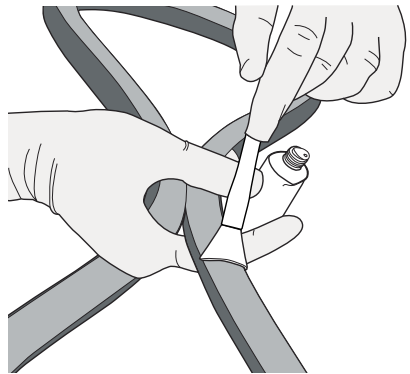

Figure 32. Inflate tire until base tape is exposed. Apply a thin layer of glue.
4. Inflate the tire just until it rolls over and the base tape is exposed (Figure 32).